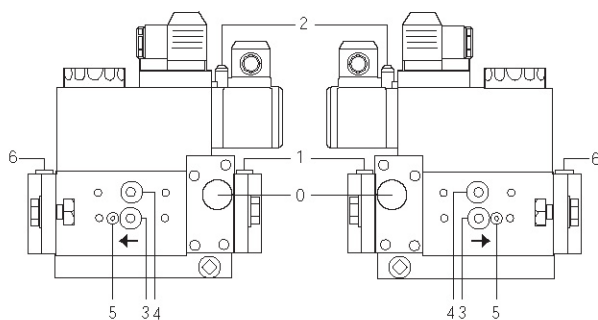
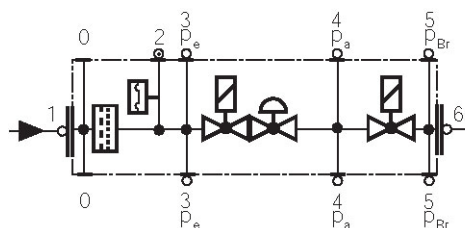

Fig. 25
Fig. 26
- Change the filter if the pressure difference between pressure connection 1 and 3 (Fig. 25-Fig. 26) is  $\Delta p > 10$  mbar.
- Change the filter if the pressure difference between pressure connection 1 and 3 (Fig. 25-Fig. 26) is twice as high compared to the last check.